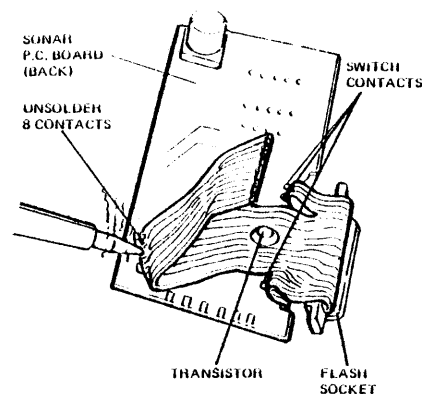

FIGURE 4-31
3. Solder the eight contacts on the back of the sonar P.C. board (see Figure 4-31).
4. Solder the three switch contacts (two on one side, one on the other side of the flex circuit) (see Figure 4-31).